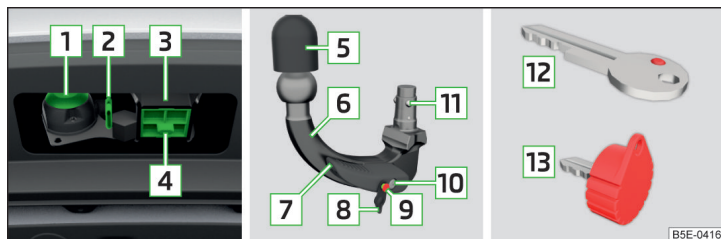

Fig. 287 Carrier for the towing device/tow bar/key versions
» Fig. 287
- Remove the cover for the mounting recess **4** in a downwards direction » Fig. 287 on page 250.
- Place the cap **4** » Fig. 287 on page 250 onto the mounting recess.